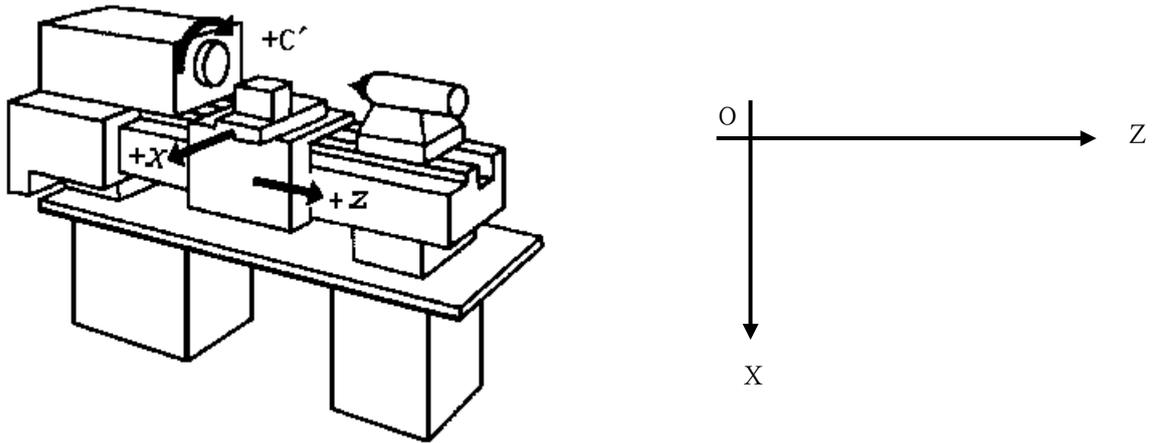

Fig. 1-1 X—Z plane rectangular coordinate system 1 (front tool post coordinate system)
This system has defined the controlled axis and its motion according to GB/T 19660—2005/ISO 841:2001 *Industrial Automation System and Integration-Numerical Control of Machines-Coordinate System and Motion Nomenclature*. The two coordinate axes are named with X and Z, which are perpendicular each other to form X—Z plane rectangular coordinate system as Fig. 1-1:
The coordinate system in the manual defines X, Z based on Fig. 1-1(front tool post coordinate system). Some commands of G codes must be converse when Fig.1-2(rear tool post coordinate system) defines X, Z:
- 1) When G02 programming based on Fig.1-1, Fig. 1-2 uses G03 programming; when G03 programming based on Fig.1-1, Fig.1-2 uses G02 programming.
- 2) When G41 programming based on Fig.1-1, Fig. 1-2 uses G42 programming; when G42 programming based on Fig.1-1, Fig.1-2 uses G41 programming.